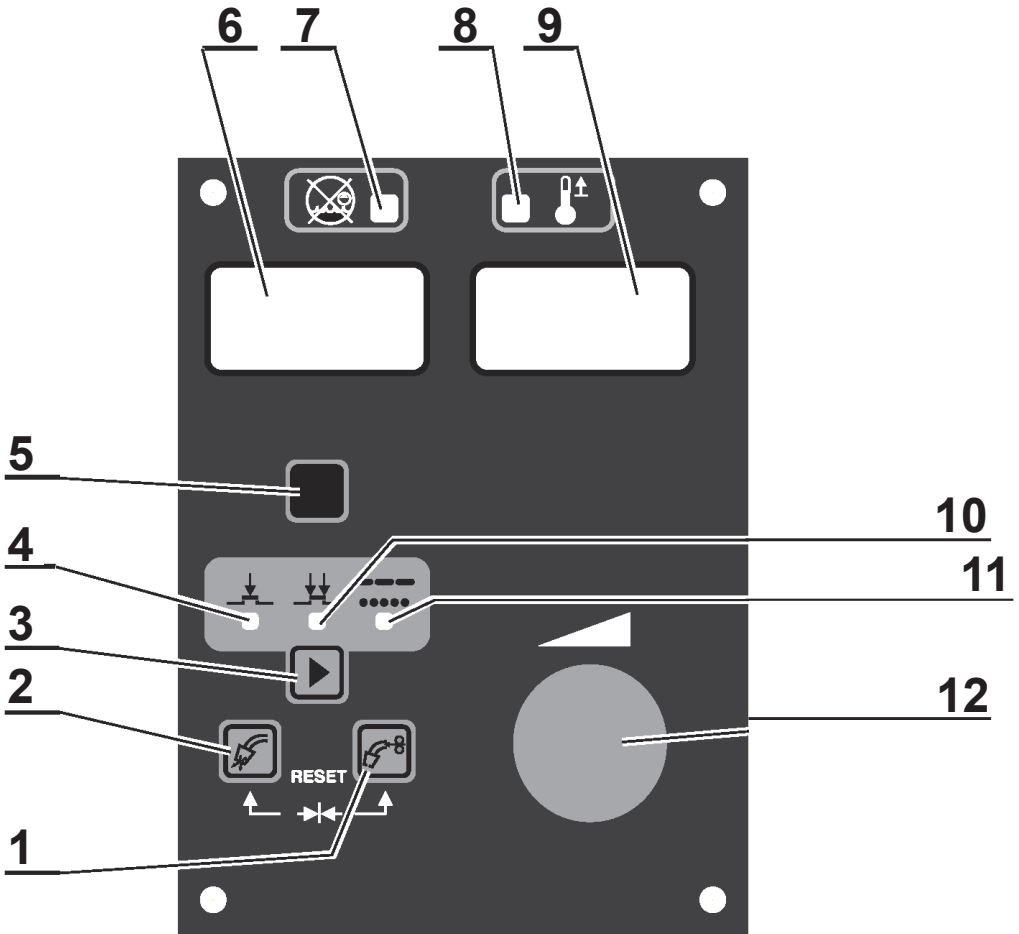

Figure 2: Control panel (P1 as on Fig.1) on Minor version
P1 - Minor version control panel (see Fig. 2)
7.4 Mounting the spool on a feeder and wire feeding in the welding torch - button 1 as on Fig.2.
Use the knob **12** to set the wire feed speed (see Fig. 2). Welding arc should be stable and produce minimal amount of spatter. Use button **3** to set following available welding modes: